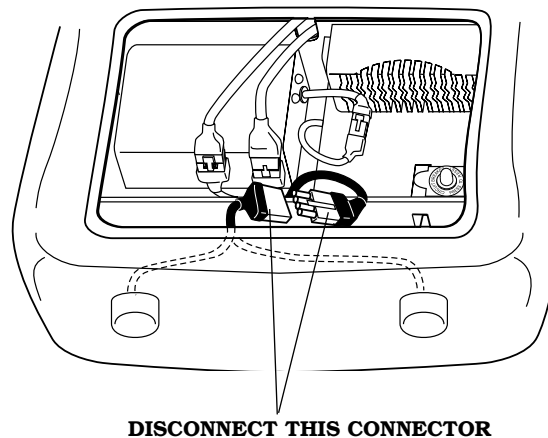

FIGURE 14. TAILLIGHT CONNECTOR (TRUNK LID REMOVED)
2. Disconnect the taillight connector. See figure 14.